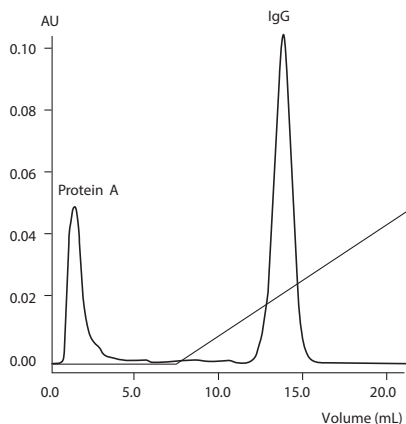

Fig 7. Removal of protein A from mouse IgG_{2b} by cation exchange chromatography on HiTrap SP HP. Recombinant protein A was spiked into mouse IgG_{2b}.
- Cation exchange chromatography is an effective tool for removing residual protein A, especially when the particular monoclonal has strong cation exchange binding characteristics. The run is conducted at a pH in which the antibody is known to dissociate from protein A. Protein A binds poorly to cation exchangers and will pass unretained or elute early in the gradient (Figure 7, on page 26).